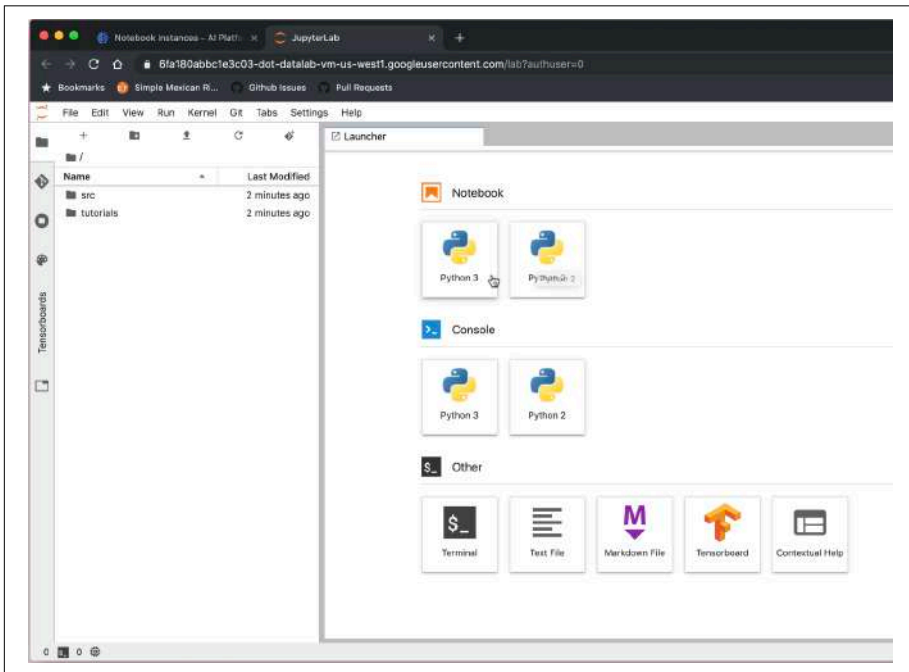

Figure 10-10. The notebook selection screen
13. In the screen that opens, choose to create a Python 3 notebook (see Figure 10-10).